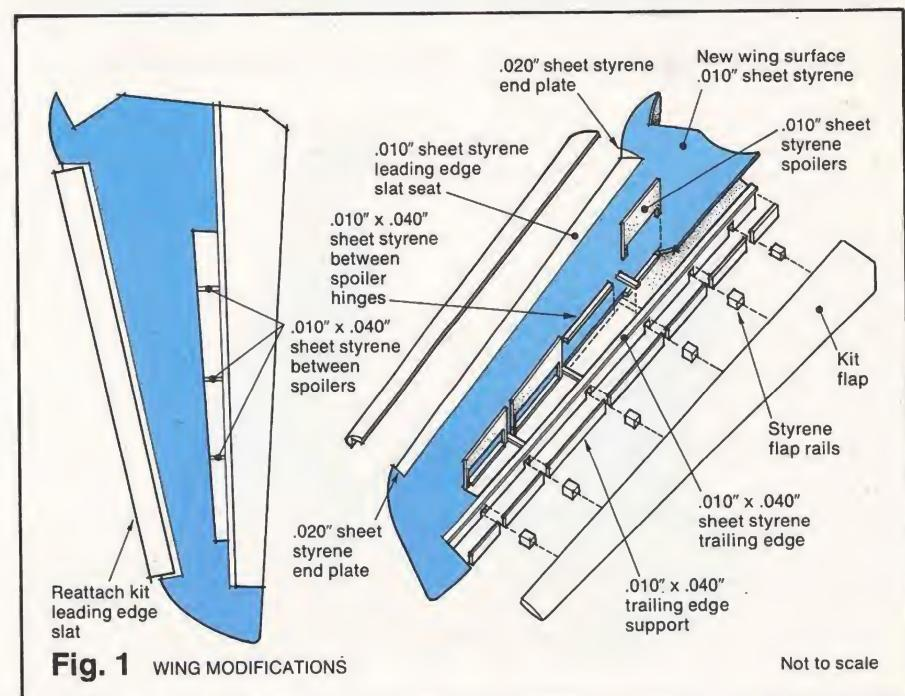

Fig. 1 WING MODIFICATIONS
**Flaps and spoilers.** I decided to drop the flaps and raise the spoilers on the model, Fig. 1. Using the kit panel lines as a guide, I cut the leading edge slats and trailing edge flaps from the upper and lower wing halves. With the flaps missing there was little bonding sur-